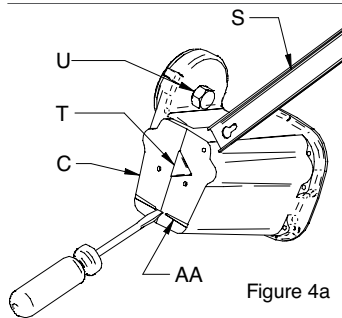
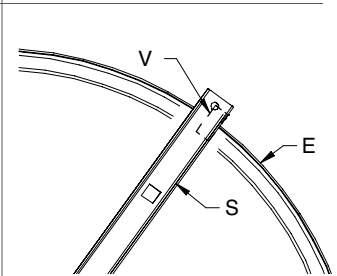

Figure 4a
Figure 4b
1. Install aiming sight bracket (S) in the socket housing (C) as shown in Figure 4a. Ensure alignment to boss (T).
2. Loosen main fixture mounting bolt (M) add socket housing retaining bolt (U).
4. Align center of hole with the top left edge of lens door retaining latch (V) as shown in Figure 4b.
### Up-Aiming Instructions: (See Figure 4A)